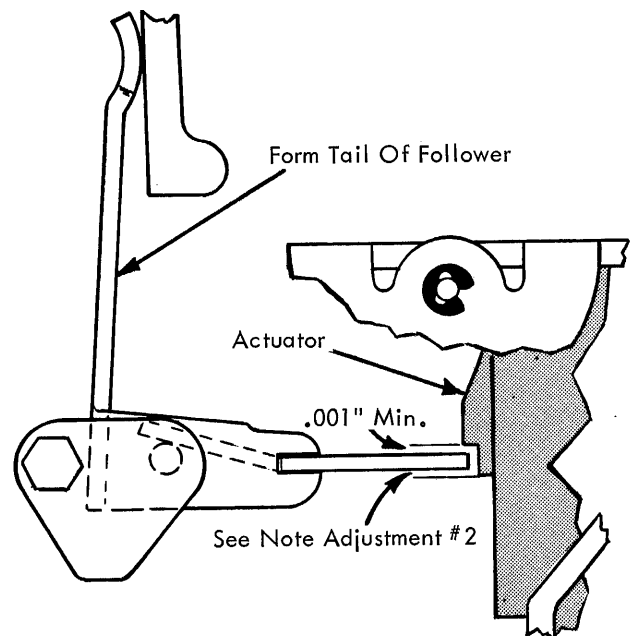

FIGURE 181.2 Contact Latches
2. Contact Latches (Fig. 181.2) - Form the tails of the interposer followers so that the latches will clear the step on the actuator by .001" minimum with the interposers latched.